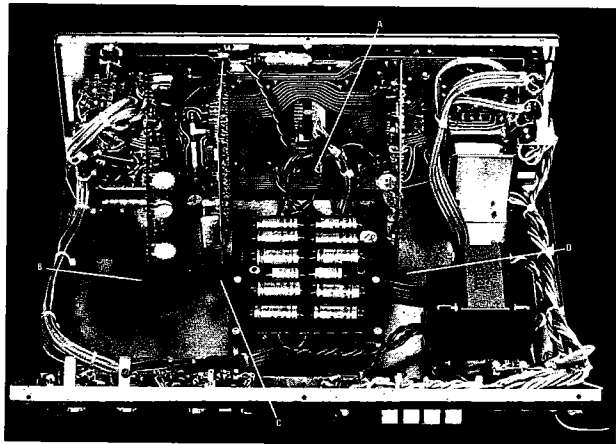

Figure 36 Interconnect Board, Installed
4. Disconnect from the Interconnect Board, the Bus Bar that connects the shields of the Tape Monitor Cables, — Figure 36, Item A.
To remove the Phono, Tone or Times Ten Board, remove the appropriate board retainer, Figure 36, Items B, C or D, and un-plug board from Interconnect Board.